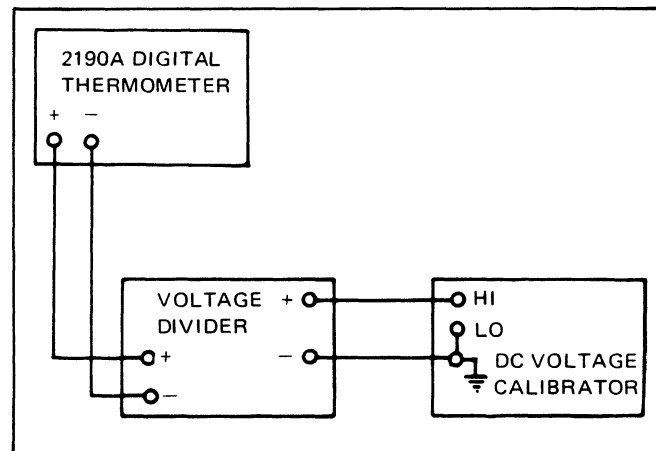

Figure 4-3. Calibration Adjustment Connections
3. Connect the equipment as shown in Figure 4-3. Refer to Table 4-2 for the applicable test equipment models.